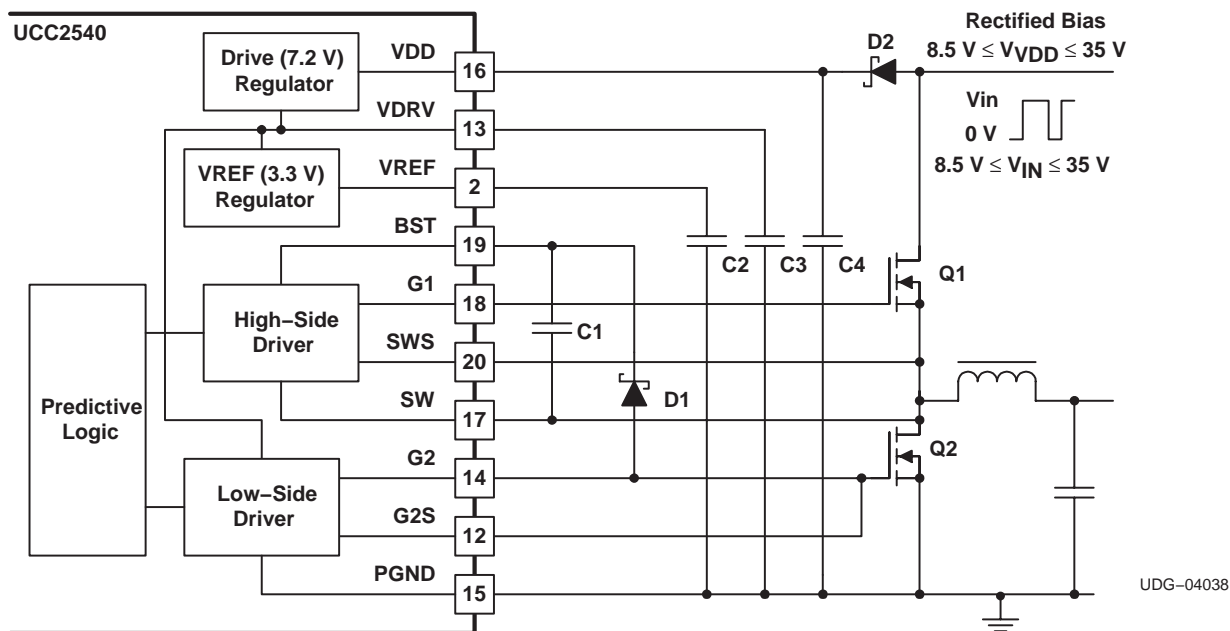
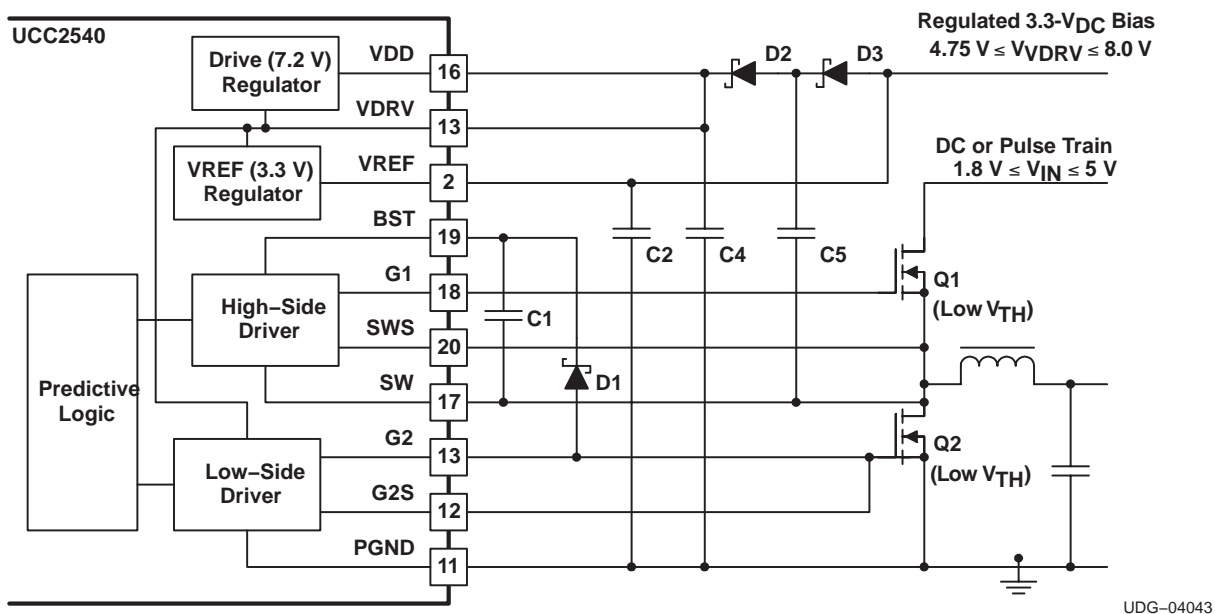

Figure 13. Mode 1 With Rectified Biasing for Input Voltages Between 8.5 V and 35 V
Figure 18. Mode 3 With Regulated 3.3-V_{DC} Bias
- Mode 1, or normal operation requires the availability of a bias of 8.5 V or higher for the device. Here, the bias drives the VDD pin. The low-side drive bias, V_{VDRV} = 7 V, is generated from an internal linear regulator and it directly draws current from the VDD pin. The high-side driver bias is a flying capacitor that is charged from the VDRV pin through the G2 pin, when G2 is HI, via a diode between G2 and BST. The UCC2540 operates in Mode 1 if V_{VDD} > (V_{VDRV} and V_{VREF}) when V_{VREF} rises above 2 V. Mode 1 permits the widest range of bias voltages, operational from 8.5 V < V_{VDD} < 35 V. This mode is compatible with systems that have a 12 V_{DC} bias supply already available. Alternatively, Mode 1 is particularly useful for applications where the input line voltage varies over a wide range and the bias is to be derived directly from the reflected line voltage, such as in Fig. 13.
Assorted combinations of modes and biasing schemes are shown in Figure 13 through Figure 18. In Mode 1 and Mode 2, the bias voltage can either be an independent auxiliary supply or it can be generated by rectifying and filtering the reflected line voltage, as shown in Figure 13 through Figure 16. A regulated auxiliary supply must be used with Mode 3 because the tolerance of the VREF voltage is the control tolerance of the UCC2540. In Mode 3, the regulated auxiliary supply can be independent of the power supply input voltage (as shown in Figure 18) or, the regulated auxiliary supply can be the same source as the power supply input voltage.
Capacitors C1 through C5 are all part of a charge distribution network that allows the UCC2540 to pass charge to the MOSFET gates of Q1 and Q2 (all reference designators in this section refer to the schematics in Figure 13 through Figure 18). This section gives guidelines on selecting the values of C1 through C5 so that the converter functions properly. Specific capacitor values may need to be larger than the recommended value due to MOSFET characteristics, diode D1 – D4 characteristics and closed-loop converter performance. All three modes of operation require a charge pump capacitor and diode, C1 and D1, in order to drive the high-side power MOSFET. Modes 2 and 3 require additional charge pump capacitors and diodes in order to supply voltage to VDD. In general, all charge pump diodes should be Schottky diodes in order to have low forward voltage and high speed. The charge pump capacitors should be ceramic capacitors with low effective series resistance (ESR), such as X5R or X7R capacitors.